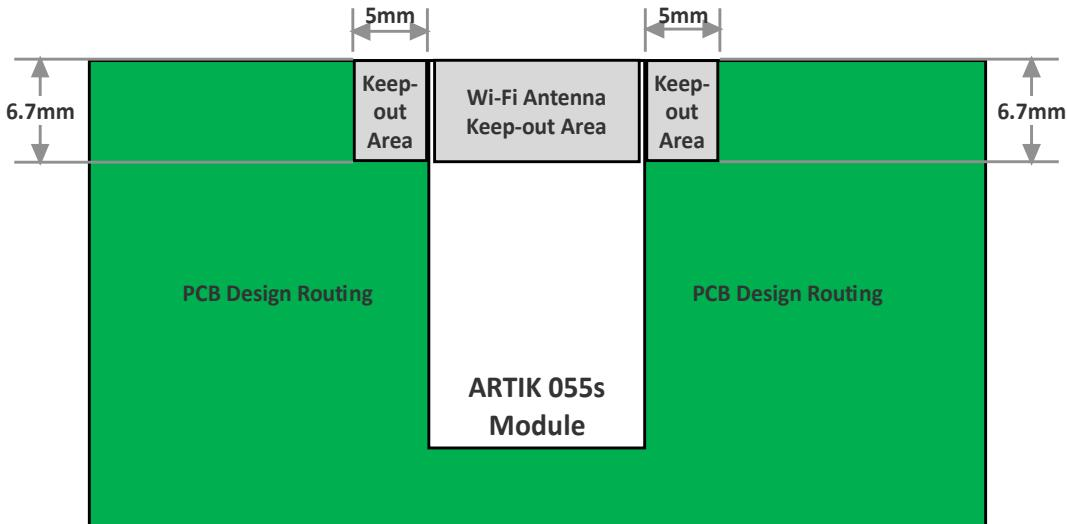

Figure 6. Module Placement Restrictions
- To avoid severe Wi-Fi radiation loss, Samsung Semiconductor, Inc. strongly recommends allocating a “No PCB Routing or Power Planes” metal-free area of at least 5x6.7mm (all layers) next to the on-module antenna, as shown in Figure 6.